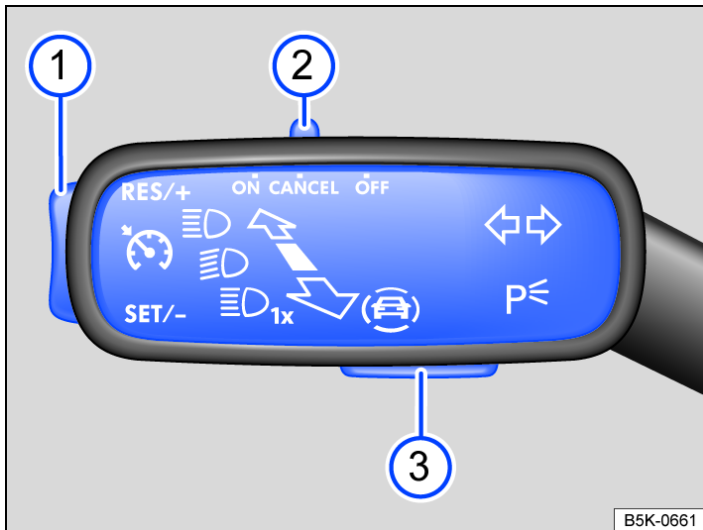

Fig. 1 On the left of the steering column: switch and buttons for operating the speed limiter.
— Move → Fig. 1 (2) switch to position **ON**.
— Press → Fig. 1 (1) button in the area **SET/-** while driving.